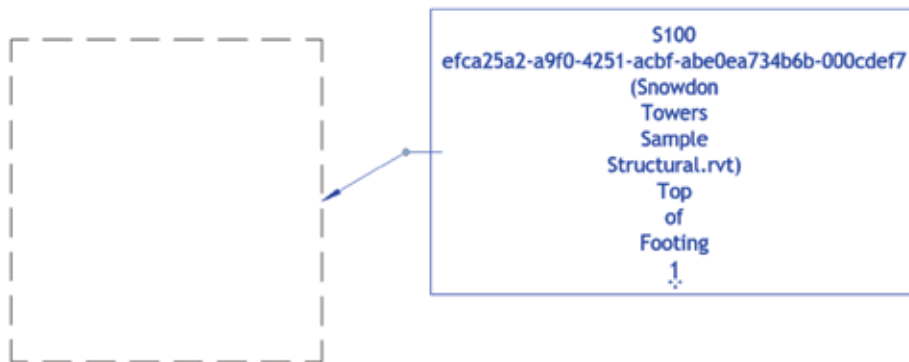

Figure 20
**Remember** - when you create the custom tag you will need to make sure it graphically mimics your standard tags. My test tag featured ALL the VS parameters, so it ended up looking pretty chaotic! Pick and choose the parameters you need to tell the story you want to tell (Figure 20)